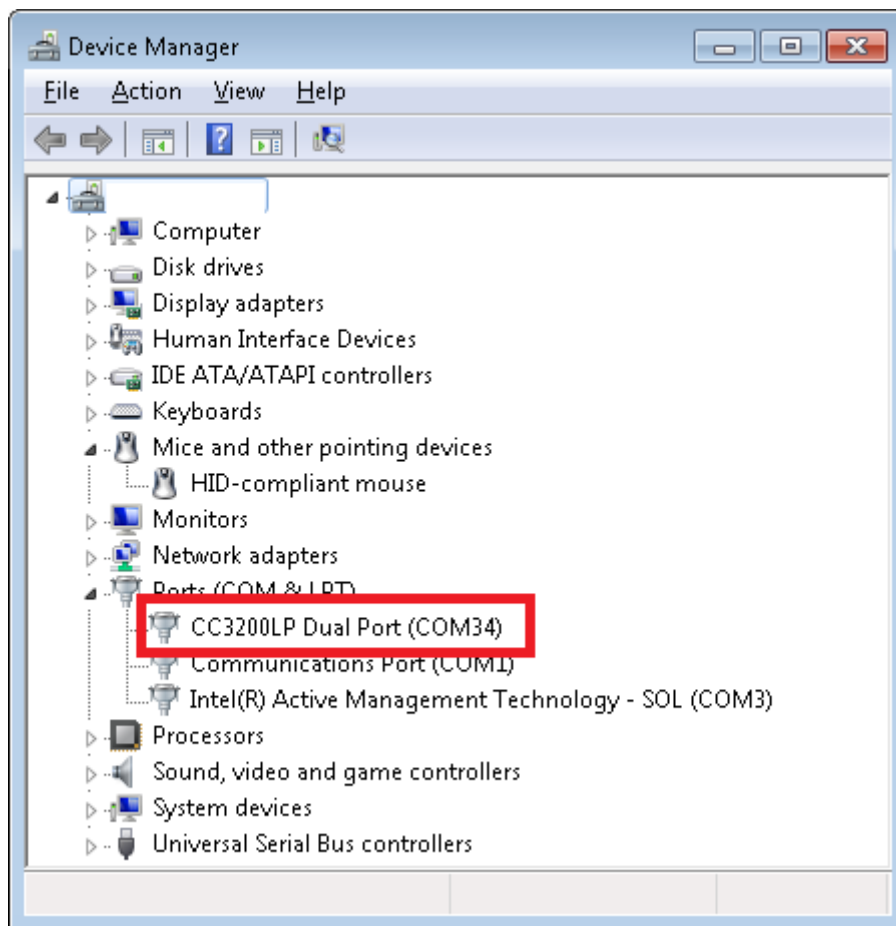

Figure 2. Device Manager
2. The CC3200-LAUNCHXL will now be visible in the Device Manager as shown in Figure 2. Note the COM port number that appears.